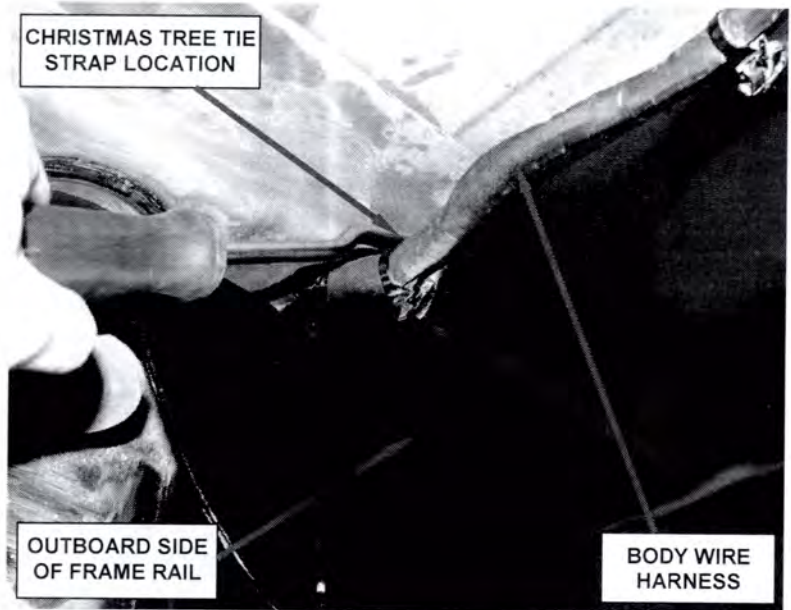

Figure 8 – Detach Christmas Tree Tie Strap From Top of Frame
5. Disconnect the Christmas tree tie strap from the top of the frame rail (Figure 8).